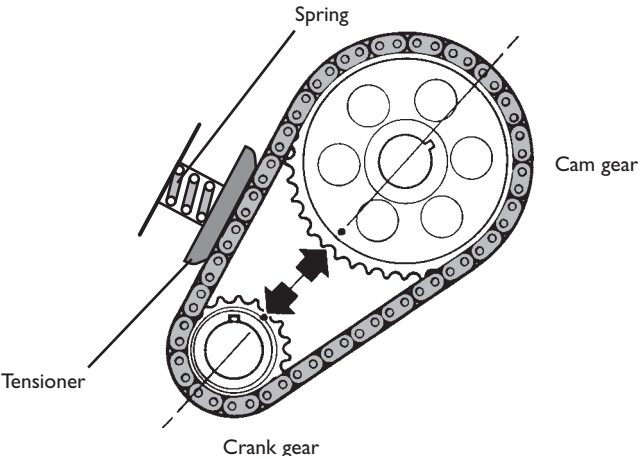

Figure 5.13 Camshaft chain drive and tensioner
- Camshaft chain drive (Figure 5.13). Chain drive is not as popular now as it used to be. The problems with it are that a way must be found to tension the chain and also provide lubrication. A typical chain tensioner is shown.